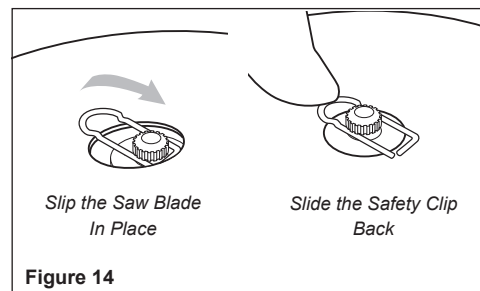

Figure 14
3. Fit the blade over the safety clip and then center it over the flange on holder A. See Figure 14.
4. Lock the blade in place by centering the safety clip on the output shaft. See Figure 14.